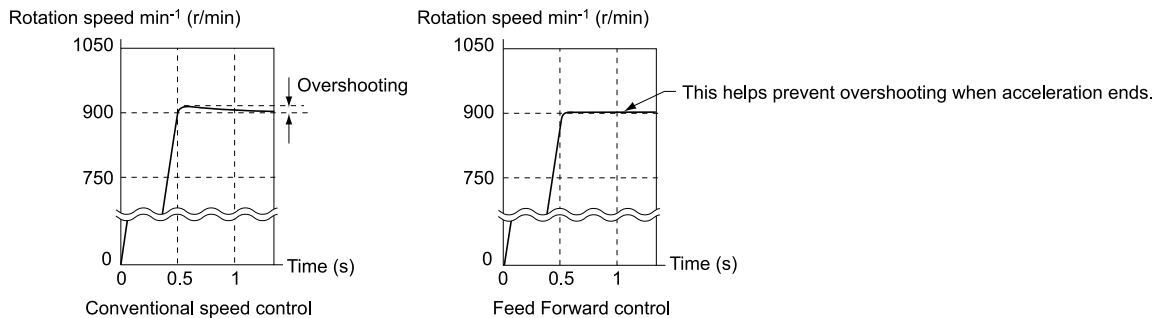
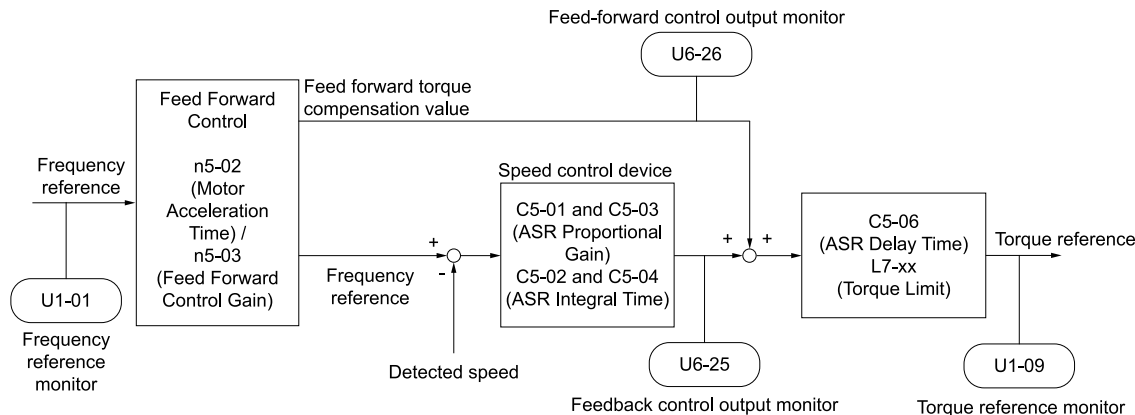

Figure 12.143 Suppress Overshooting with Feed Forward Control
Figure 12.144 Configure Feed Forward Control
Increase $C5-01$ and $C5-03$ [ASR Proportional Gain] to apply feed forward control to machines that have low rigidity and are possible to have hunting and vibration or to machines that have a large quantity of inertia. When you use this function in CLV control, it also helps prevent overshoot. Refer to Figure 12.143. Refer to Figure 12.144 for more information about parameters related to feed forward control.
- If you cannot do Inertia Tuning, refer to Figure 12.144 and set the parameters related to feed forward control individually.